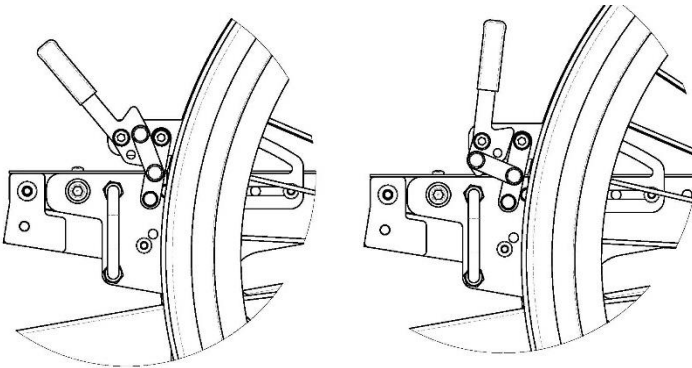

Figure 12.23: Pull-to-Lock (Left) and Push-to-Lock(Right) Wheel Locks (standard)
1. To engage the push to lock wheel lock (see Figure 12.23), push the lever forward, away from the wheel, until it locks into place.
2. To engage the pull to lock wheel lock (see Figure 12.23), pull the lever towards the wheel until it locks into place.